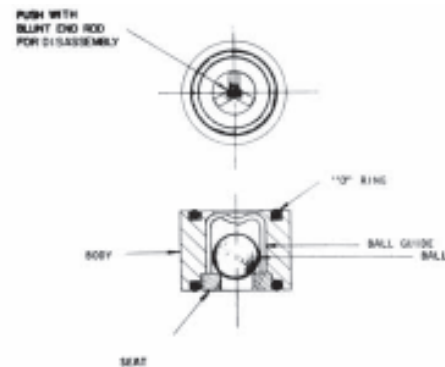

Fig. 9 - Check Valve Assembly Model 1730 and Model 1740 Units
*Ball Type Check Valves (Refer to Fig. 9)